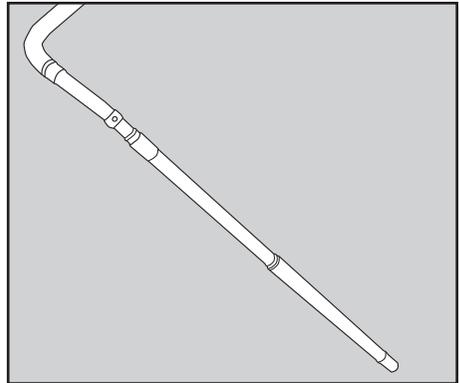

Fig. 5
- Attach the extension wand(s) to the curved handle end of the hose (Fig. 5).
- Attach the extension wand(s) to the curved handle end of the hose (Pg. 7, Fig. 5).